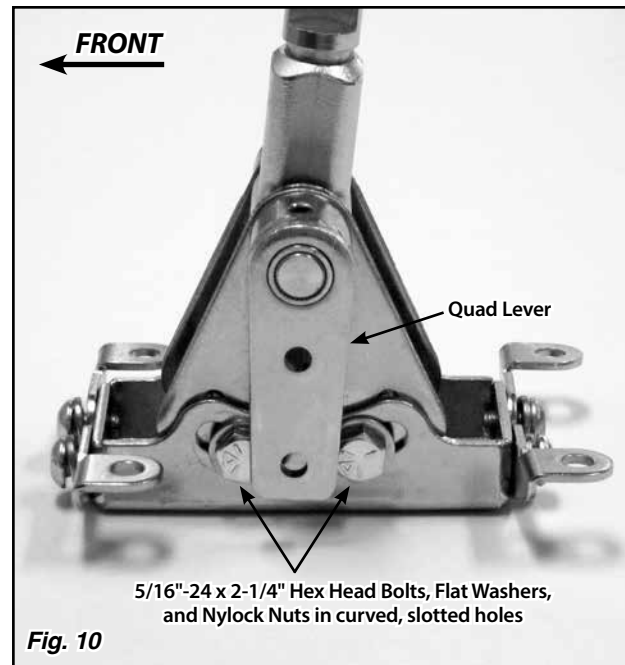

Fig. 10
**Step 12:** Make sure the two 5/16"-24 x 2-1/4" hex head bolts and nylock nuts that are in the curved, slotted holes in the floor mount mounting bracket are tight. Place the Shifter in the desired location on the vehicle's floor. Make sure the shifter lever will not interfere with the dash when in Park, or with the seat when in low gear (you may need to temporarily install your shifter lever to verify). The shifter assembly may be tilted forward or backward if needed by loosening the nylock nuts on the two 5/16"-24 x 2-1/4" hex head bolts that are in the curved, slotted holes in the floor mount mounting bracket. Retighten the nylock nuts once you have the shifter assembly at the angle you want. Fig. 10